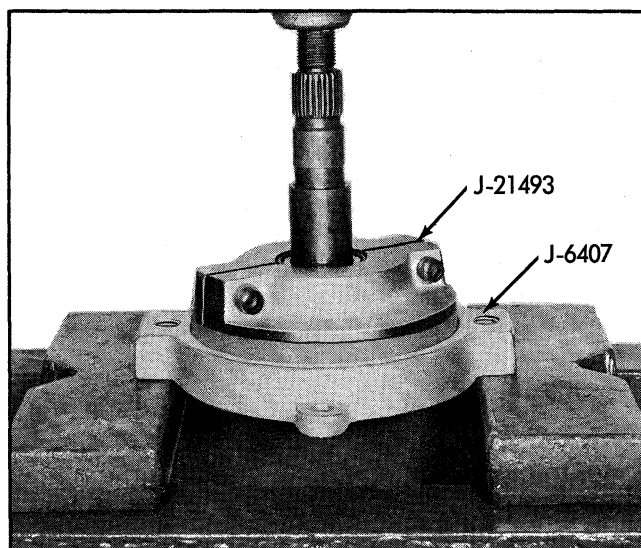

Fig. 4-32 Removing Rear Pinion Bearing
1. If rear pinion bearing is to be replaced, or pinion depth setting changed, remove rear pinion bearing from pinion shaft using Remover J-21493 with Holder J-6407. See Fig. 4-32.